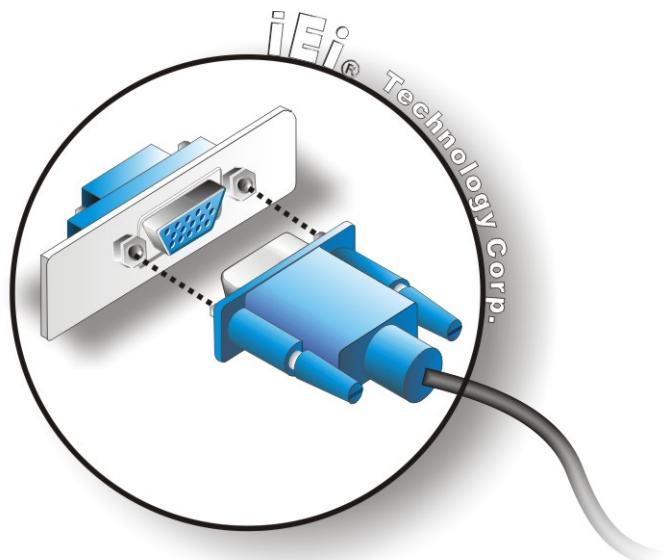

Figure 4-18: VGA Connector
Step 6: Insert the VGA connector. Once the connectors are properly aligned, insert the male connector from the VGA screen into the female connector on the NANO-QM57A. See **Figure 4-18**.